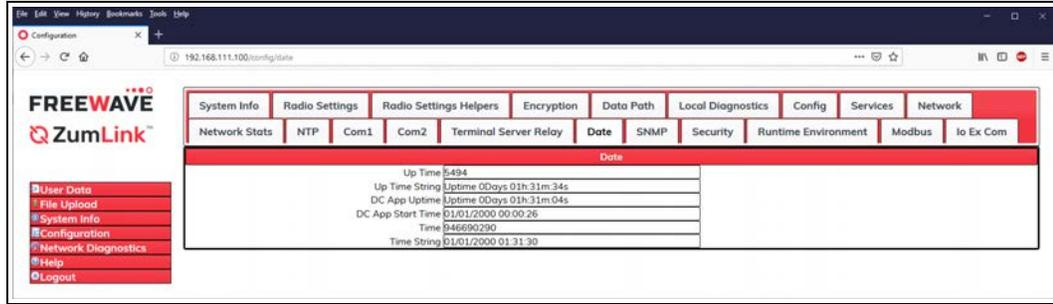

Figure 259: Date window
6. Click the **Date** tab to access the **Date** parameters. Figure 259